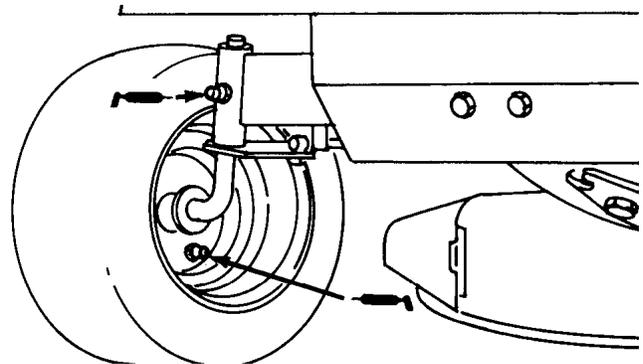

Figure 14
1. Lubricate the front wheels and spindles until grease begins to ooze out of the bearings (Fig. 14).